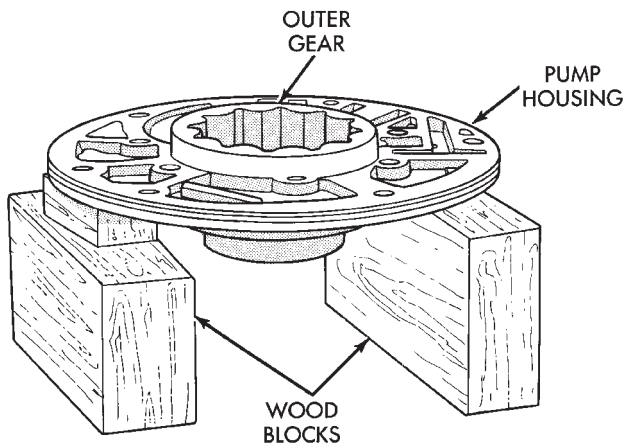

Fig. 57 Supporting Pump And Installing Outer Gear
(1) Lubricate gear bore in pump housing with transmission fluid.
(2) Lubricate pump gears with transmission fluid.
(3) Support pump housing on wood blocks (Fig. 57).
(4) Install outer gear in pump housing (Fig. 57). Gear can be installed either way (it is not a one-way fit).